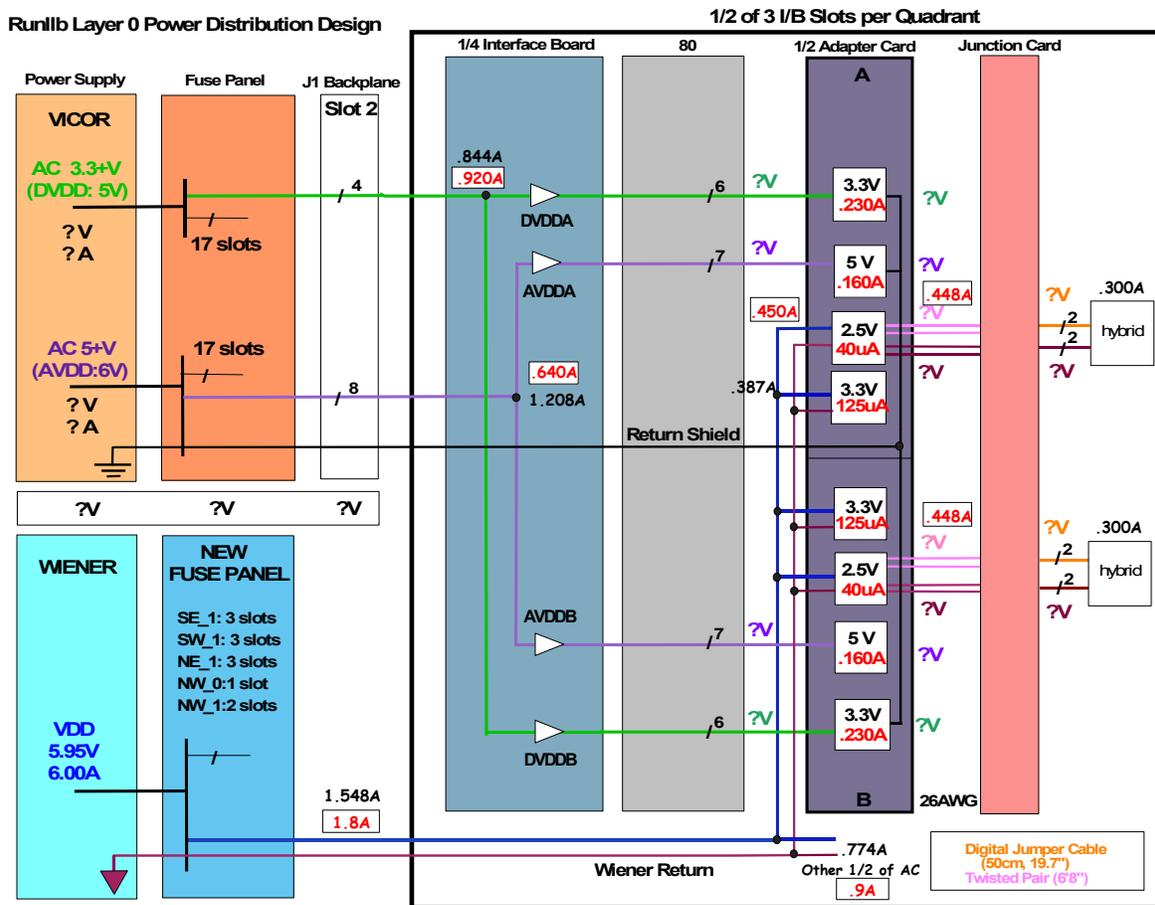

Figure 1: RunIIb Layer 0 Low Voltage System
Three voltages are required by the new Layer 0 Silicon detector, VCC5, VCC3.3, and VDD. VCC5 and VCC3.3 are required by the newly designed four channel Adapter Card (AC). A channel is defined as the output of one hybrid, each containing two SVX4 readout chips. VCC5 and VCC3.3 will be provided by the currently installed VICOR Power Supply system via the Interface Board (IB) and 80 conductor cable. VDD, an isolated supply, provides power to the isolation signal drivers on the AC as well as SVX4 power. Figure 1 illustrates the overall Low Voltage system design.
The peak current, during readout mode, was used to determine design parameters. They are indicated in red on Figure 1. Currents indicated in black were supplied by A. Nomeroski. Discrepancies between the two have not been resolved. Therefore, the highest values are used in this design. The Hybrid Current is measured at the output of the AC. This is the current draw from two SVX4 chips. Signal Power was measured from the power supply feeding the AC. This current draw is required by the SVX4 power regulator and the isolation drivers on the AC.